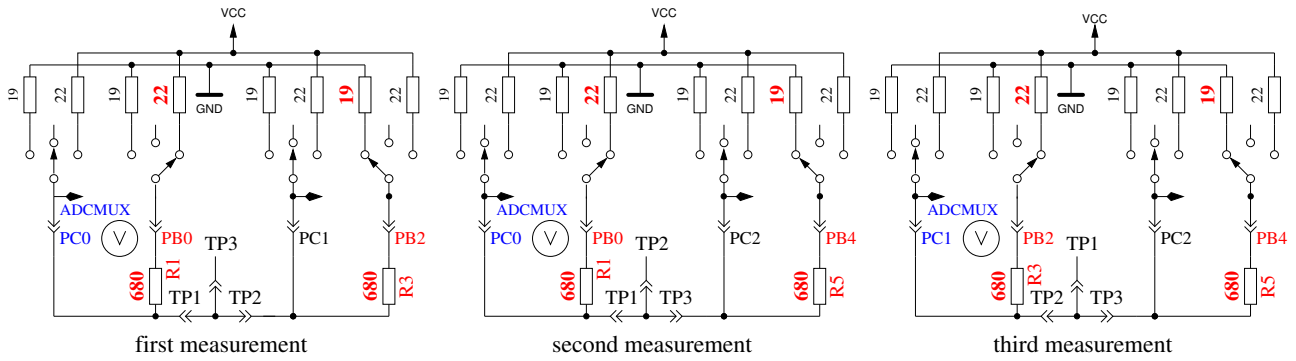

Figure 5.50: Comparison of 680Ω resistors
2. **Comparing of the 680Ω resistors.** In row 1 the cryptic text “+RL- 12 13 23” is shown. Meaning of this is as follows: The RL is the short form of Resistor Low meaning the 680Ω resistors. The 12 stand for: resistor at pin 1 is connected to VCC (+) and resistor at pin 2 is connected to GND (-). The result of this measurement is displayed in row 2 at the first place as difference to the theoretical value. In row 1 follows now a “13” which means, that the first connection of measurement 1 is still connected with 680Ω to VCC but that the resistor of pin 3 is connected to GND. The result is displayed in the middle place of row 2 as difference to the theoretical value. The last measurement of this test “23.” means that now the resistor at pin 2 is connected to VCC (+) and the resistor of pin 3 is connected to GND. The result of measurement is displayed at the last place of LCR row 2 as difference to the theoretical value. Please remember, that the resolution of the ADC is about 4.88mV! The measurement situation is also shown in figure 5.50. The theoretical value with respect to the internal resistance of the pins should be: